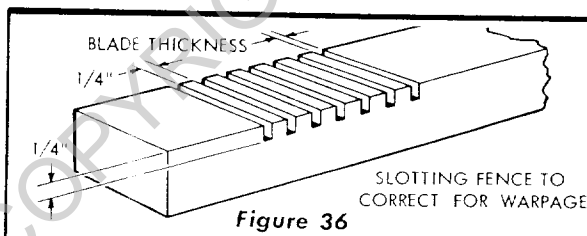

Figure 36
5. In the event that the fence is warped and cannot be straightened by tightening the table clamps proceed as follows: Remove the fence and replace with a temporary fence made from a straight piece of scrap lumber. Proceed to cut slots in the original fence where the gap between the fence and front table was determined to be the greatest. (See figure 36 for slotting.) Replace the fence, after slotting, behind the front table with the slots toward the rear and tighten the table clamps.